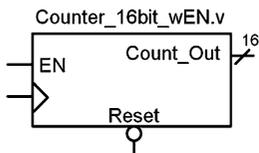

Fig. 9.2
9.2.1 Design a Verilog behavioral model for a 16-bit, binary up counter with enable using a single procedural block. The block diagram for the port definition is shown in Fig. 9.2.